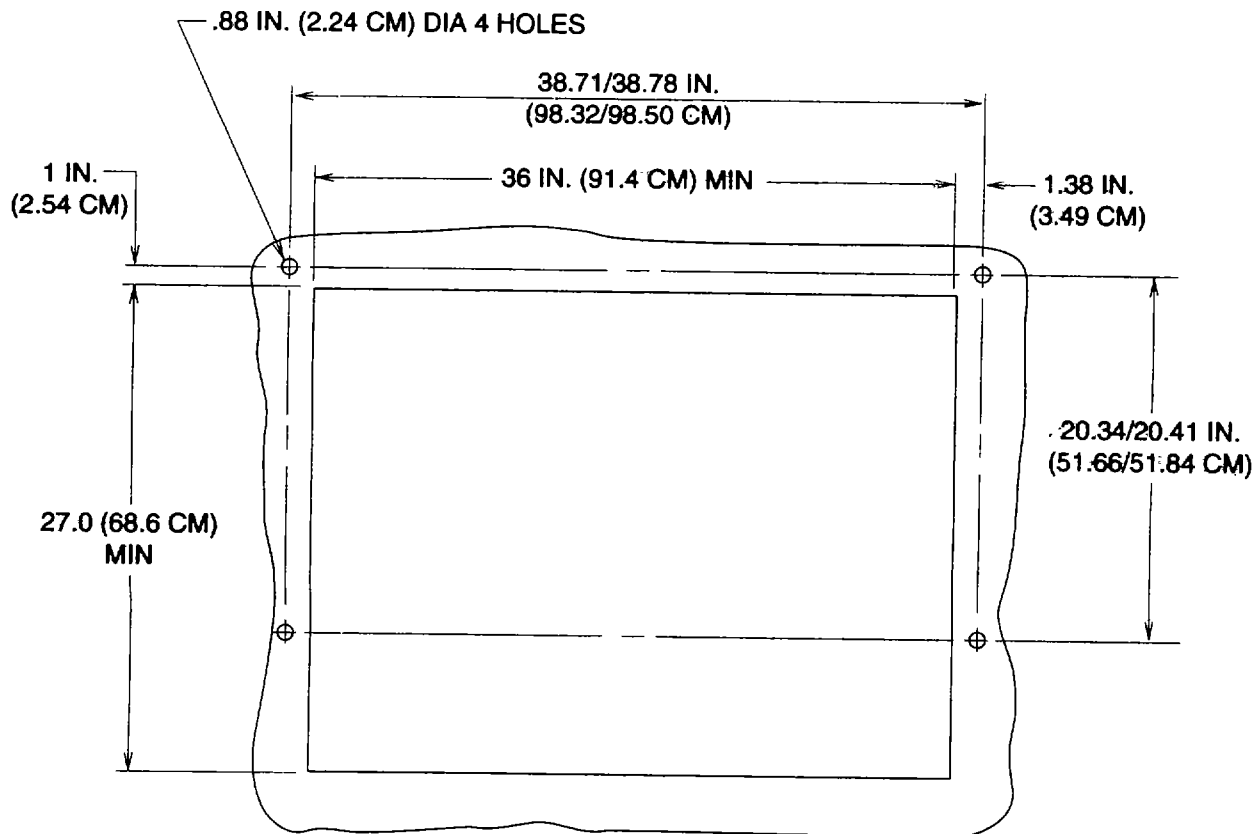

Figure 4-1. Wall Opening Dimensions
4.7.2 Refrigerator Enclosure Preparation. The refrigerator enclosure must have an opening 36.00 inches (91.4 cm) wide and 27.00 inches (68.6 cm) high and four 0.88 inch (2.24 cm) mounting holes (fig. 4-1). If an opening does not already exist in the enclosure, see the enclosure manual for information on making such an opening.